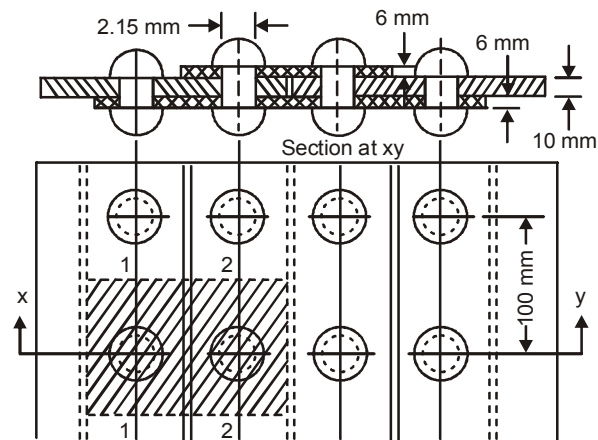

Fig. 1
3. (a) What do you mean by "Viscosity"? Velocity distribution of a fluid of dynamic viscosity is 8.63 poise is $U = 2/3y - y^2$ in which U is the velocity in m/sec at a distance y meter above the plate. determine the shear stress at y = 0 and y = 0.15. Take dynamic viscosity of fluid is 8.63 poise. (20)
4. (a) Two plates 6 mm thick are joined by 14 mm diameter rivets in a triple staggered riveted lap joint as shown in fig 1. In what way will the joint fail if allowable tensile stress for plate = 150 MPa; allowable shear stresses for rivets = 90 MPa and allowable bearing stress for rivets = 270 MPa. Also find the efficiency of the joint. (20)